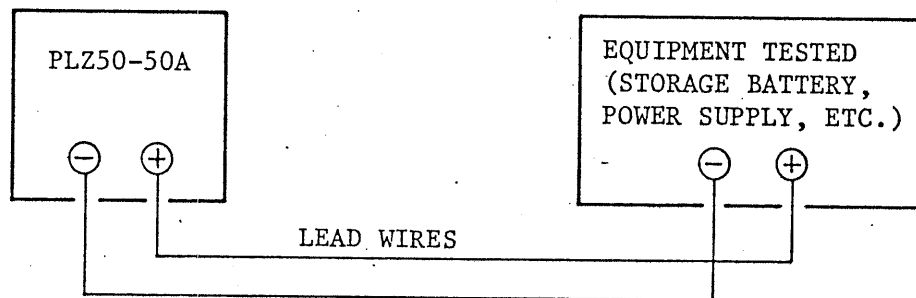

Figure 6
- (3) Set the LOAD switch to the ON state and turn clockwise the LOAD knob so that a constant current flows in the device and the ammeter indicates the current. (See Figure 6.)